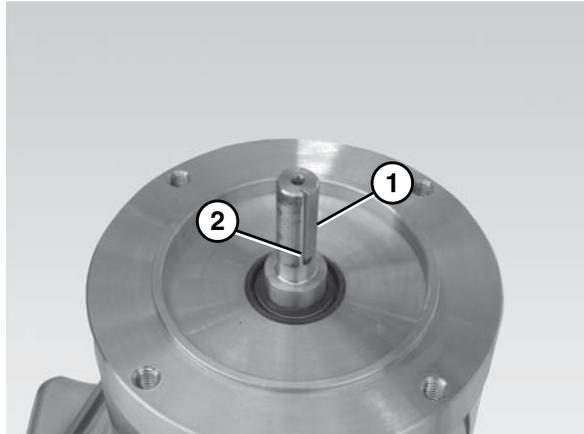

Figure 28
- Insert the gearmotor output shaft key (Figure 28, item 1) into the gearmotor output shaft keyway (Figure 28, item 2).
<p>Ensure the gearmotor output shaft key (Figure 28, item 1) is situated properly before attaching the motor to the gear reducer.</p>